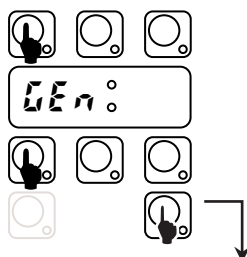

Fig. 17 Enter into User Mode (press for 5 sec)..
- Enter into the USER SETTING mode by pressing and hold down ON/OFF and CYCLE\_1 keys for at least **five seconds** the display shows  (Figure 17);